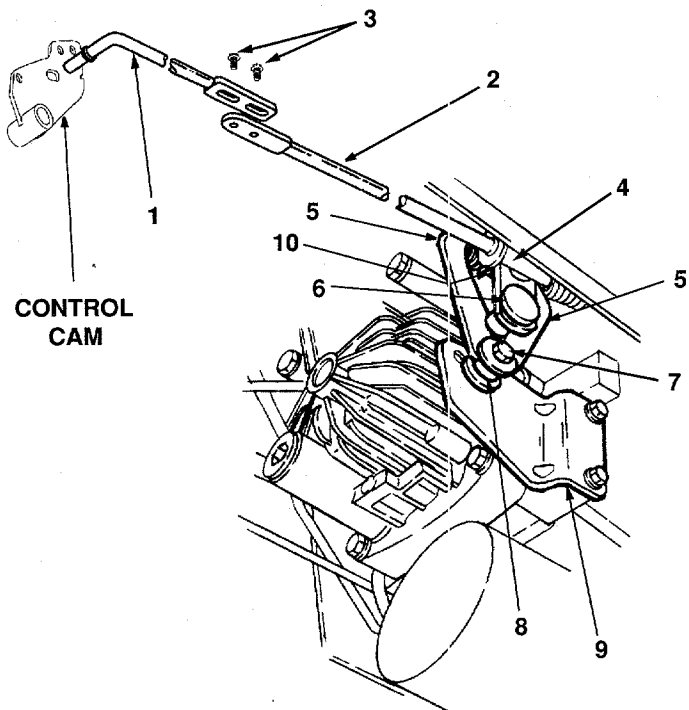

Figure 15.
- a. Disconnect the rear control rod from the control arm by removing the hairpin cotter from the pivot sleeve (Refer to Figure 15).
- c. If wheel rotation continues, loosen the locknut securing the hex cap screw and centering spacer to the neutral bracket (See Figure 15).
Adjust the control rod (See Figure 15) as follows:
2. While making certain to not move the front control rod, control cam or control arm (See Figure 15), slide the rear control rod in the direction necessary to directly align the pin of the pivot sleeve with the lower hole of the control arm.